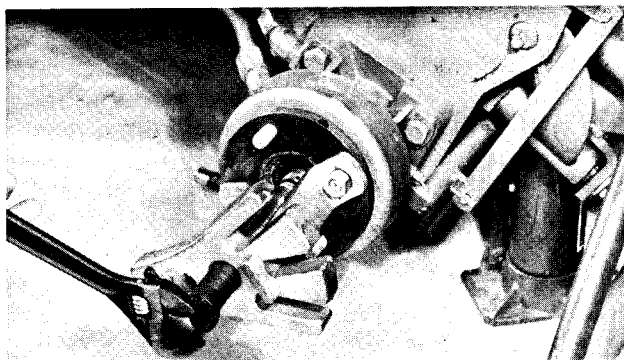

Figure 13
3. Mount a wheel puller to the wheel mount studs and remove wheel hub. Remove key from motor shaft (Fig. 13).